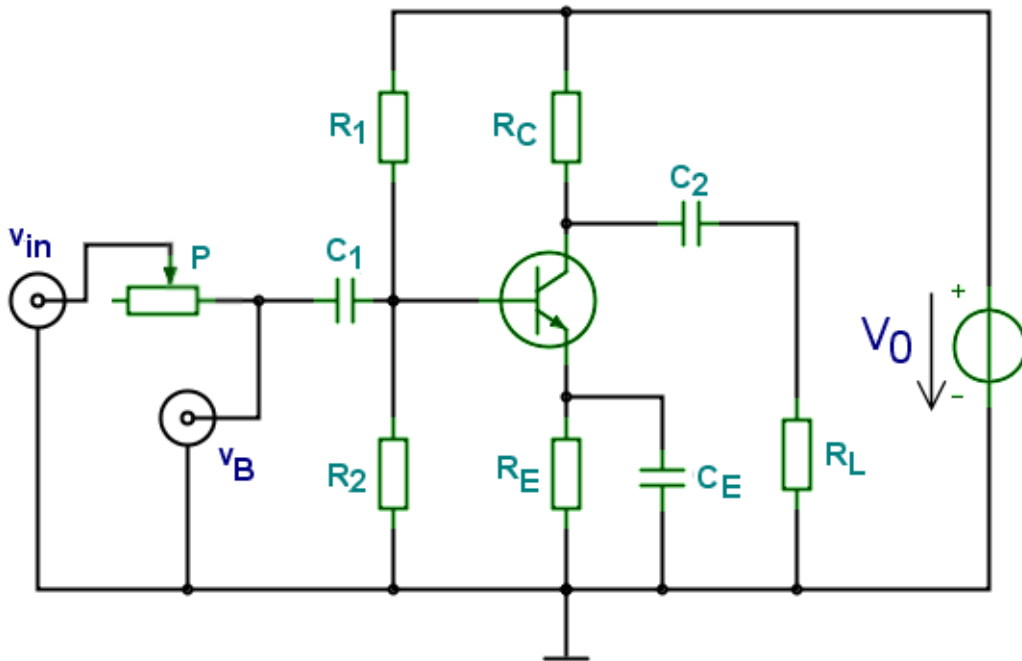

Figure 3.5 : Measuring the amplifier's dynamic input resistance
3.2.6 Put back C_E . Measure the input dynamic resistance of the circuit. To do this, put a $R_P=10k\Omega$ potentiometer in series with the input according to **figure 3.5**. Thus the input resistance of the amplifier and the potentiometer make a voltage divider. Now connect a multimeter in mV setting to v_{in} (that is the function generator's output). Using the multimeter, set up 20mV effective value (this is measured by the multimeter in AC setting) sinewave at 5kHz on the generator. Now remove the multimeter from the V_{in} , and put it to the base of the transistor (measure V_B , remember in AC mode!). Now change the potmeter until the value measured on V_B is 10mV. Now the potmeter and the input resistance of the amplifier circuit are equal, creating a 50-50% voltage divider. Remove the potmeter and measure its resistance between the two pin that were connected. This will be equal to r_{in} .